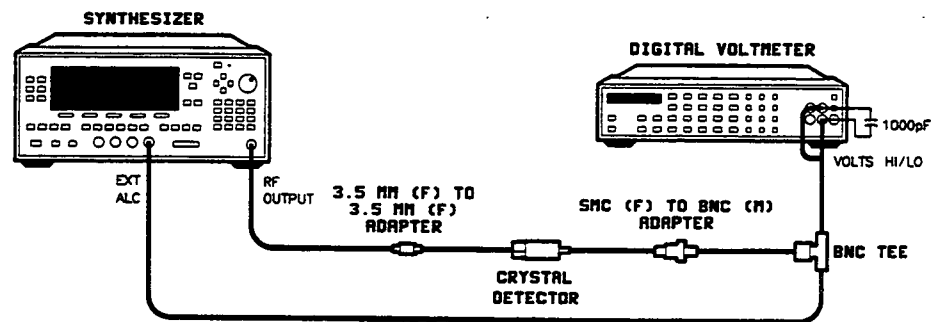

Figure 2-8. External Leveling Test Setup
1. Preset all instruments shown in figure 2-8 and let them warm up for at least one hour.
3. Connect the equipment as shown in figure 2-8.